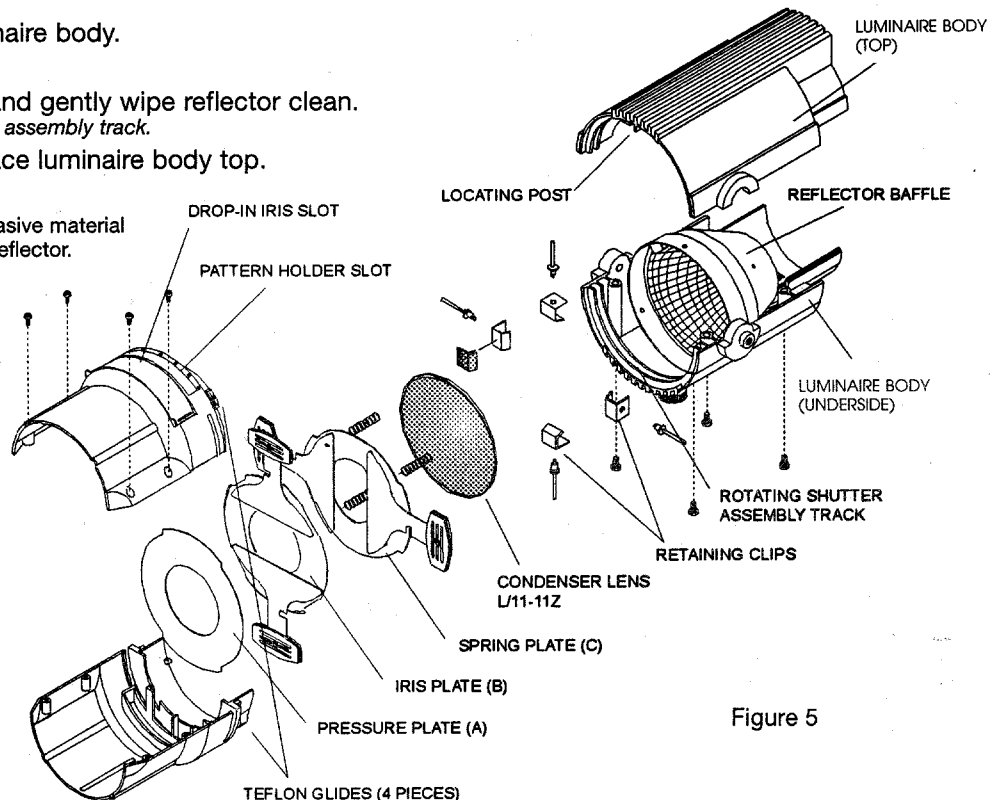

Figure 5
■ DROP-IN IRIS SLOT Figure 5
■ CLEANING THE REFLECTOR Figure 5
■ PATTERN PROJECTION Figure 5
■ INSTALLING SHUTTER PLATES Figure 5
■ CONDENSER LENS CARE Figure 5